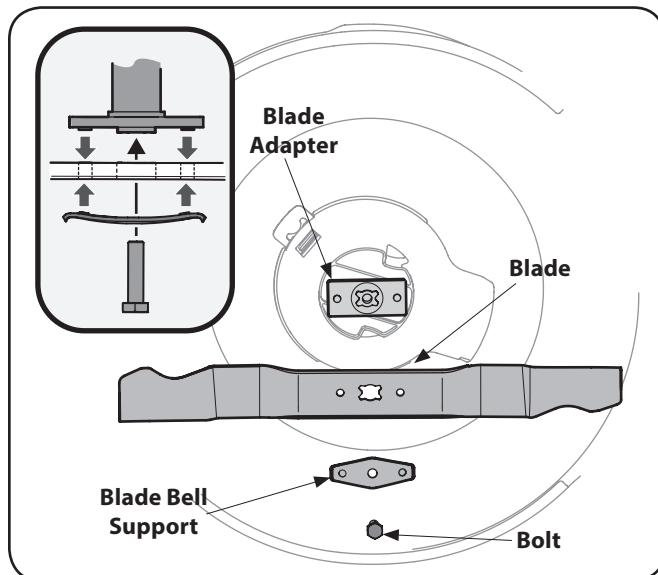

Figure 7-1
2. Remove the bolt and the blade bell support which hold the blade and the blade adapter to the engine crankshaft. See Figure 7-1.
3. Remove blade and adapter from the crankshaft. See Figure 7-1.
5. Lubricate the engine crankshaft and the inner surface of the blade adapter with light oil. Slide the blade adapter onto the engine crankshaft. Place the blade on the adapter such that the side of the blade marked "Bottom" (or with part number) faces the ground when the mower is in the operating position. Make sure that the blade is aligned and seated on the blade adapter flanges. See Figure 7-1 inset.